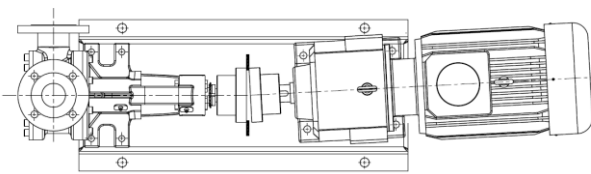

Figure 5a. Horizontal Angular Adjust Failure
- Adjusting failures may occur in horizontal and/or in vertical planes. Vertical adjusting failures can be corrected by placing thin metal sheets below foots of pump or motor/gearmotor. Horizontal adjusting failures can be corrected by sliding pump or motor/gearmotor; though taking advantage of spaces in connection holes. See **Figure 5a, 5b, 5c,** and **5d** respectively for correcting coupling adjusts.